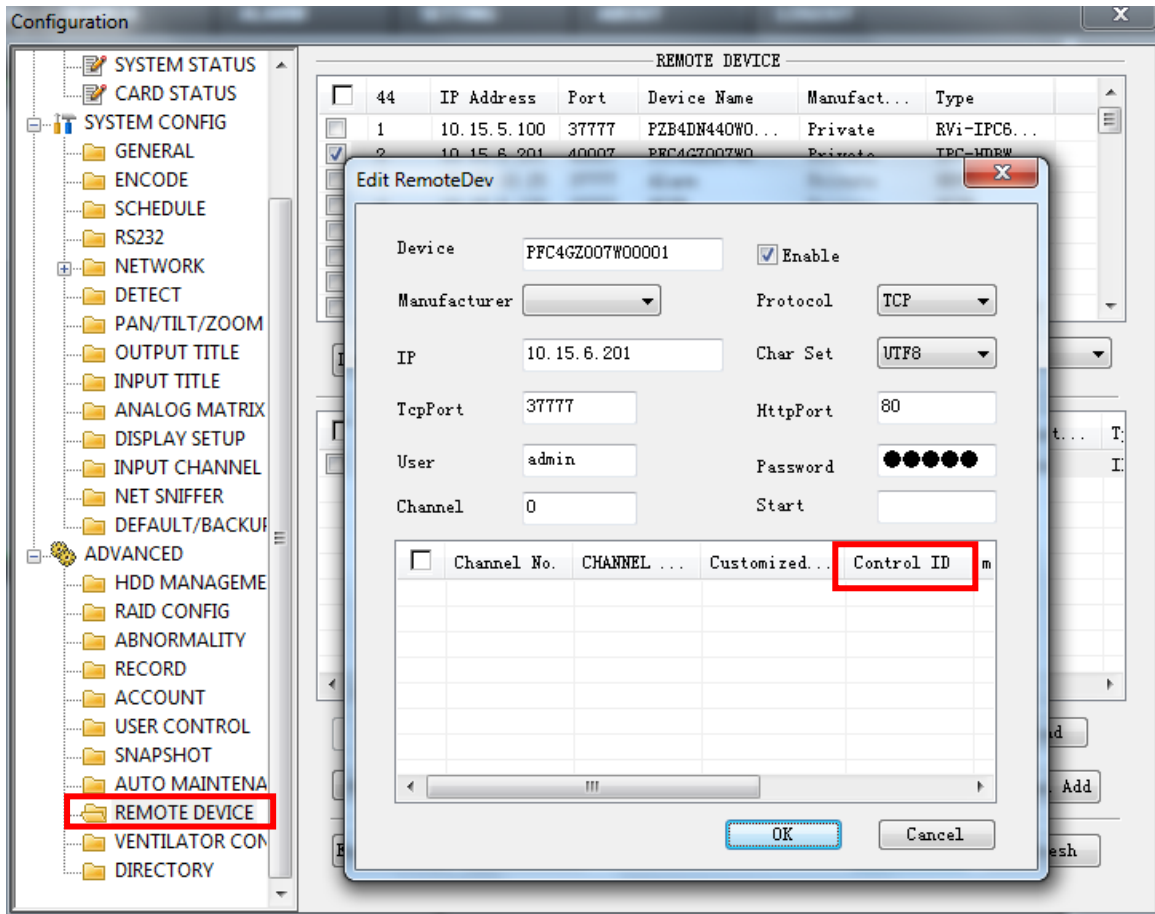

Figure 7-3
- From **【Setting】** -> **【Remote Device】** , double click the signal source, you can edit the control SN of the remote device. See Figure 7-3.